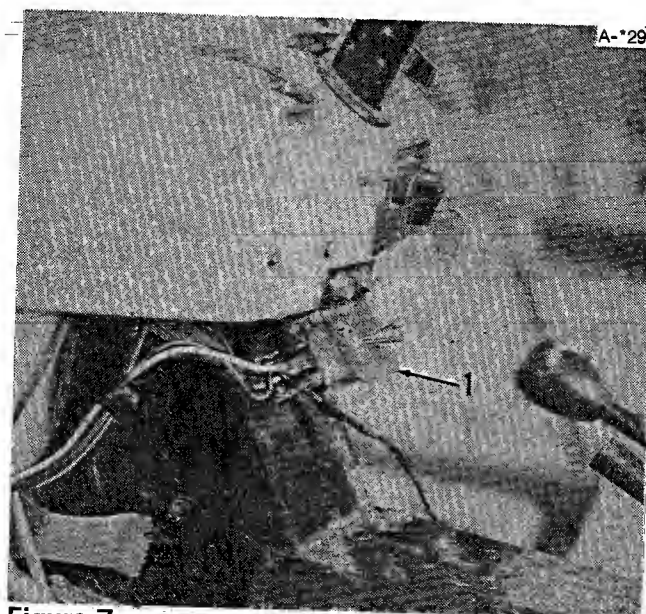

Figure 7.
- b. Remove the two bottom screws from the dash and use these screws to install the switch plate (figure 7).